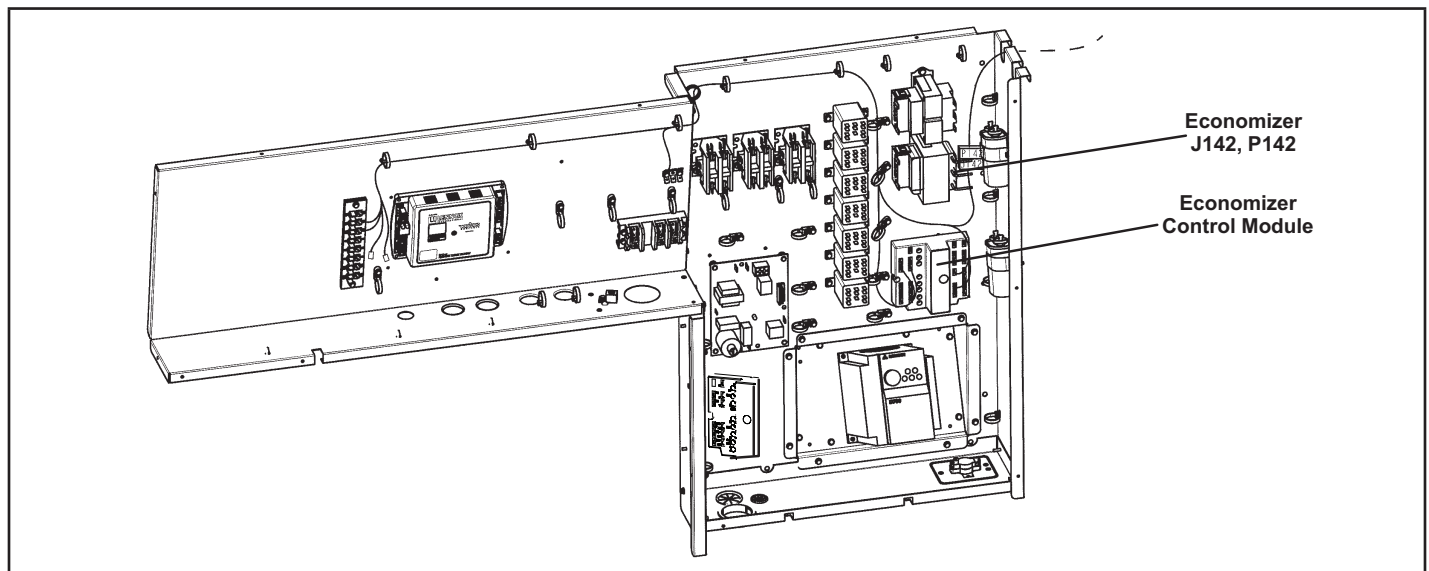

FIGURE 24
- 1 - The economizer control module is located below the actuator for shipping. Relocate the control to the unit control box, see FIGURE 24.
- 2 - Route the control wires to unit terminal block (TB1) and connect these wires to TB1 as following (see FIGURE 24):